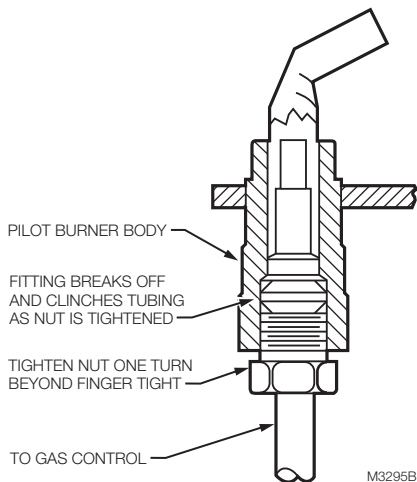

Fig. 3. Always use new compression fitting.
**NOTE:** When replacing a pilot burner or orifice, cut off old compression fitting and replace with new compression fitting provided with new pilot burner. Never use old compression fitting as it may not provide a gas-tight seal. See Fig. 3.
**NOTE:** When replacing an orifice, cut off old compression fitting and replace with a new compression fitting. Never use old compression fitting as it may not provide a gas-tight seal. See Fig. 3.